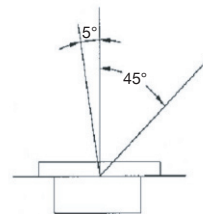

Figure 2
- The LCD is designed to be clearly visible within the angles shown in Figure 2. Mount the control unit so that the visual angle is within this range.